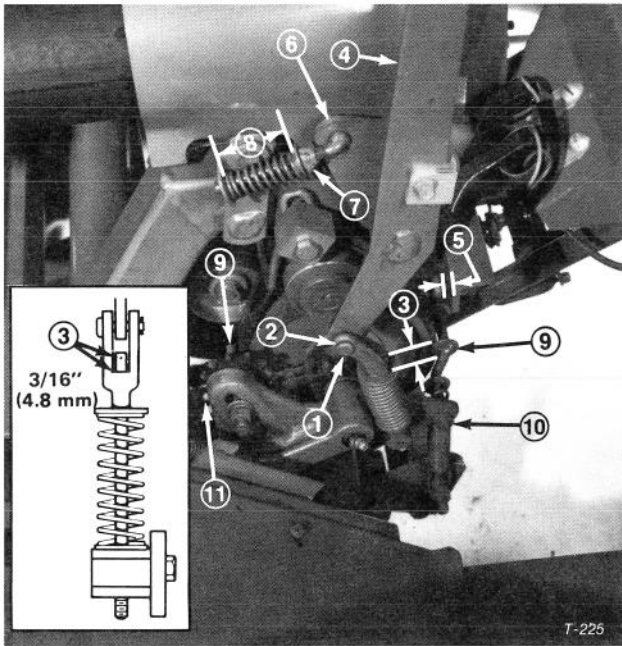

Figure 25
2. Remove cotter pin and clevis pin and swing clevis rearward to disengage from casting (Fig. 25).
4. Reinstall clevis and fasten with clevis pin and cotter pin (Fig. 25).
5. This will provide original 3/16 in. (4.76 mm) clearance between pin and clevis with traction control lever in forward position with bolt length 11/32 in. (8.73 mm) for proper over center condition of lever (Fig. 25).
2. Move cutting unit lever to ENGAGED position (Fig. 25).
3. Adjust nut until spring length is 1-1/8 in. (28.6 mm) (Fig. 25).
2. Place cutting unit and traction control levers in ENGAGED positions (Fig. 25).
3. Loosen nuts securing guides (Fig. 25). Take care when loosening front nut so chain sprocket does not change position (Fig. 25).
5. Hold guides in position and tighten nuts to secure adjustment (Fig. 25).